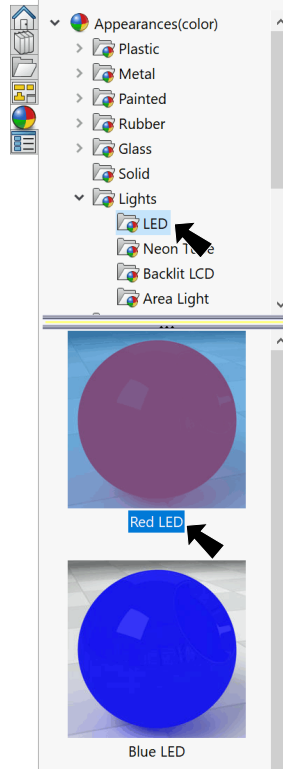

Fig. 16
Step 2. In the Appearances Task pane, expand **Lights**, click **LED** and in the lower pane select **Red LED**, **Fig. 16**.